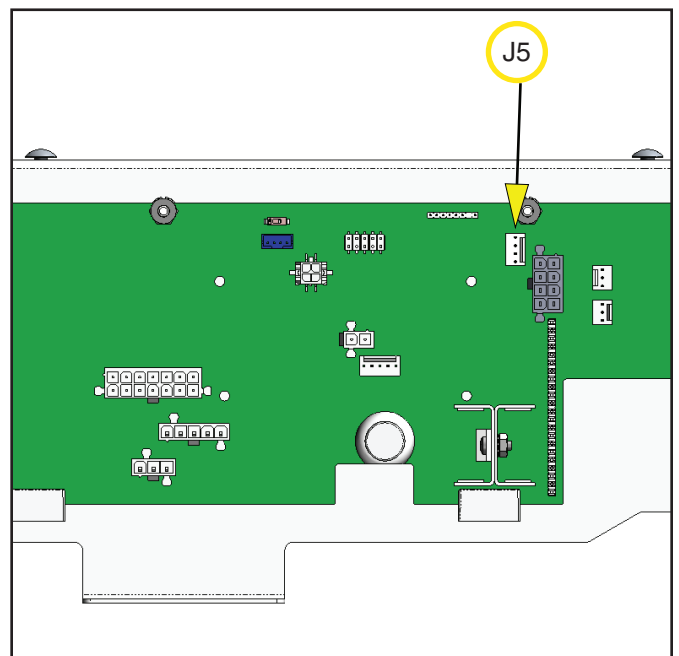

FIG. 27-3 I/O Board J5 Connector
2. Apply voltmeter leads across the air pump terminals being checked for DC voltage at J5-4 pin connector (Fig. 27-3).